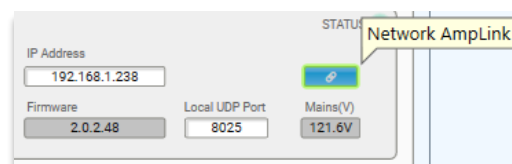

Figure 5 – Screenshot of IP Address text field and AmpLink button.
5. Enter the IP Address of the amplifier you wish to control into the text field (Figure 5).
6. Click on the *Link* button to begin the initial amp settings read process and to begin the polling/connection scheme (Figure 5).